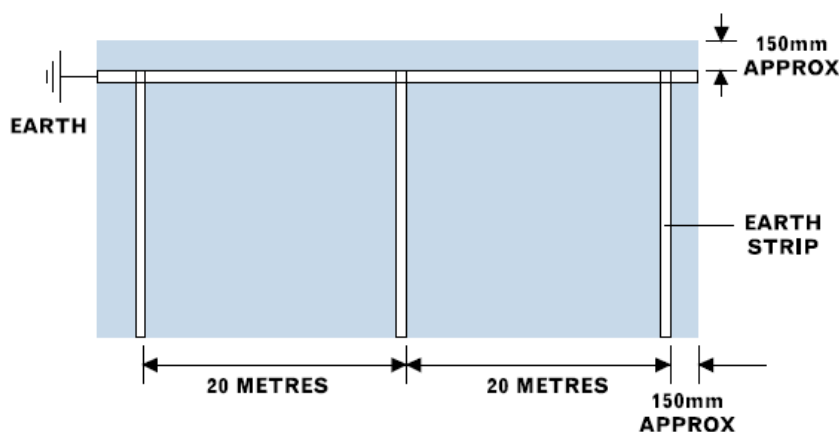

Figure 1. Earthing strip layout.
- The earth strip is laid 150 mm from one side of the room, in the same direction as the vinyl sheets are to be laid. This strip is connected to a known earth (Figure 1).